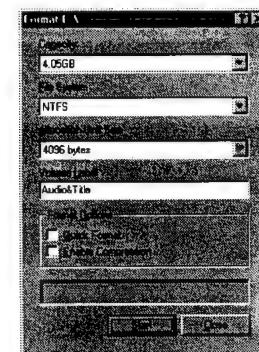

Fig. 9 Format dialog box
5. When [Format] is clicked on [Tool] menu, the format dialog box shown in Fig. 9 appears. Set [NTFS] as the file system item and [Quick format] as the format option item, and click [Start].